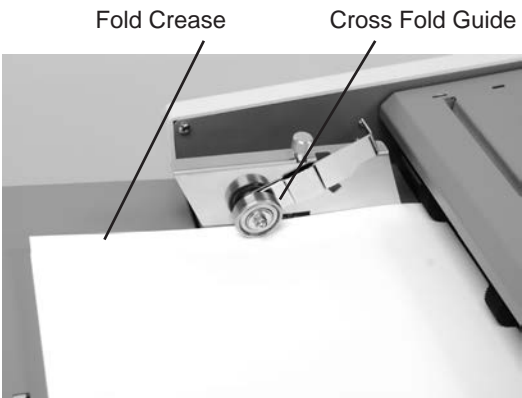

Fig. 10a
- 1. Load folded paper into the feed tray with the fold crease facing the non-operator side of the folder (Fig 10a).